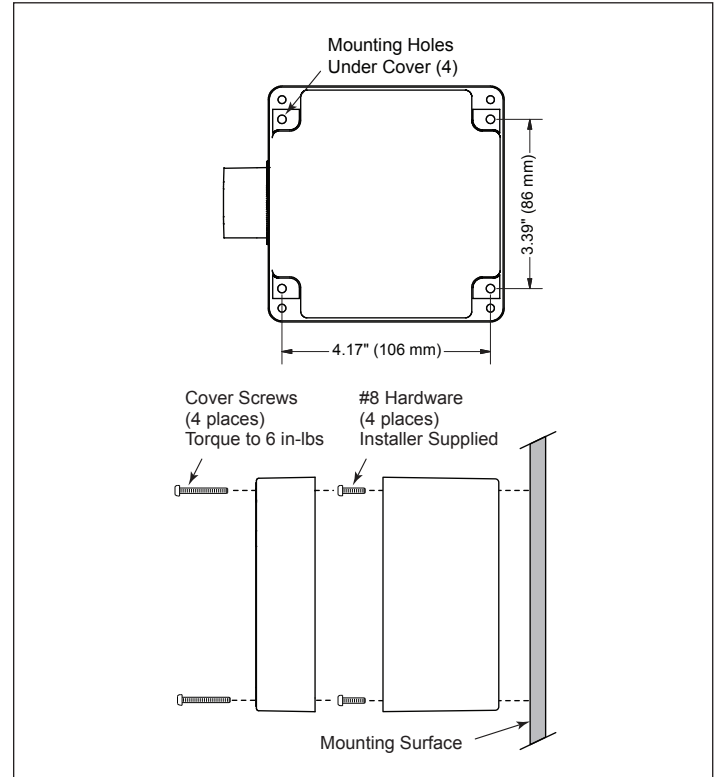

Figure 3. Wall Mounting Using Internal Mounting Holes.
1. Gain access to the internal mounting holes by first removing the SPD's four front cover screws, and then removing the front cover. See Figure 3.